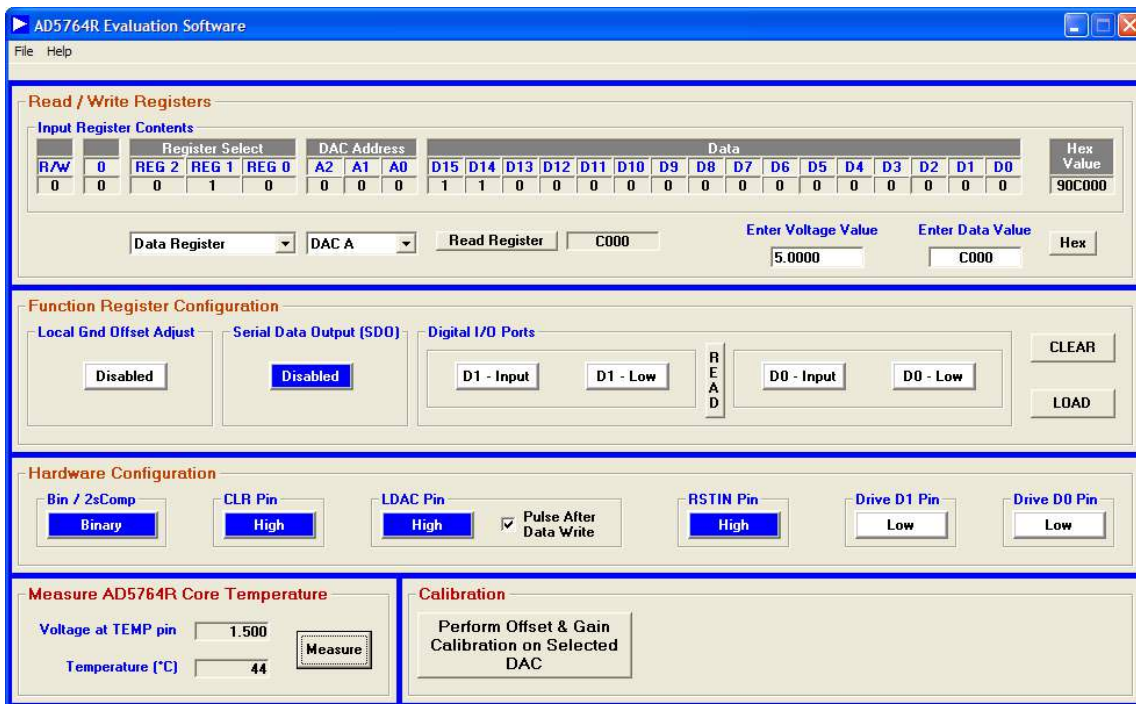

Figure 2. Main Window
2. Click **AD5764R Evaluation Software**. The main window of the software is displayed (see Figure 2).
1. Select **Data Register** from the first drop-down box and **DAC A** from the second drop-down box (see Figure 2).